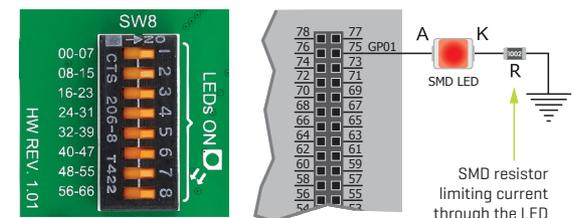

Figure 6-6: SW8.1 through SW8.8 switches are used to enable PORT LEDs
**LED (Light-Emitting Diode)** is a highly efficient electronic light source. When connecting LEDs, it is necessary to place a current limiting resistor in series so that LEDs are provided with the current value specified by the manufacturer. The current varies from 0.2mA to 20mA, depending on the type of the LED and the manufacturer. The EasyFT90x v7 board uses low-current LEDs with typical current consumption of 0.2mA or 0.3mA. Board contains 67 LEDs which can be used for visual indication of the logic state on PORT pins. An active LED indicates that a logic high [1] is present on the pin. In order to enable PORT LEDs, it is necessary to enable the corresponding DIP switch on **SW8** [Figure 6-6].